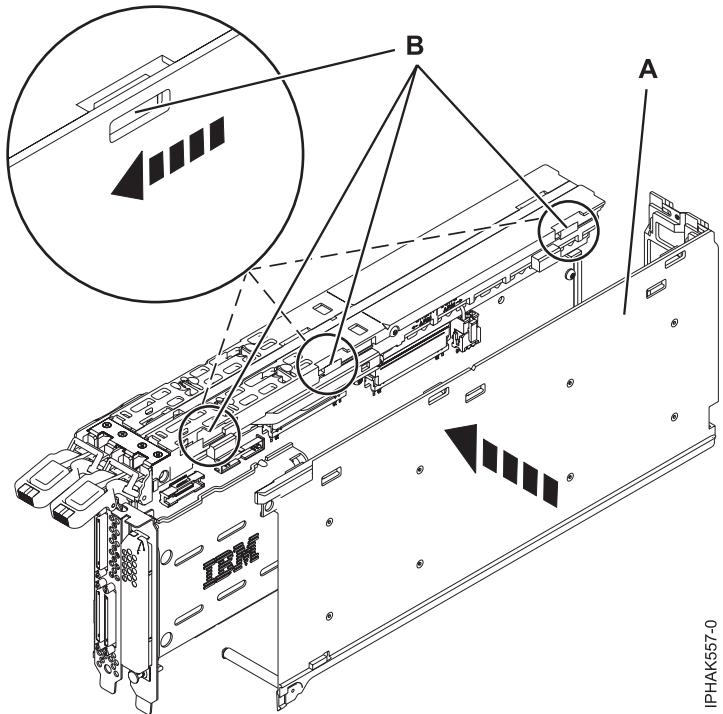

Figure 55. Installing the cover
6. Install the cover: See Figure 55 on page 69.